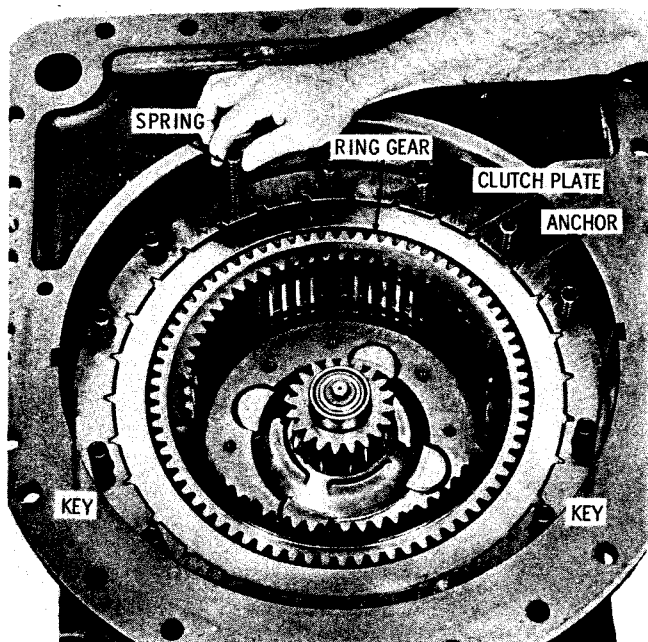

Fig. 5-67. Removing low-range clutch piston return springs S1612
(6) Remove 14 low-range clutch piston return springs (approximately 3.2 inches long) (fig. 5-67). Remove the low-range ring gear. Remove the eight low-range clutch plates. Remove the low-range clutch anchor.